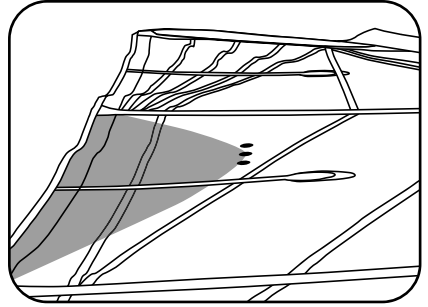

Figure 6: With the leech lying on the ground, downhaul until the looseness extends to the white dots.
b) Downhaul until the leech looseness extends to the three white dots printed between battens #2 and #3 (figure 6).